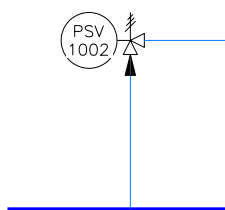

Figure 2-75 Location of the pressure relief valve
9. Place the pressure relief valve on the secondary line of the line connecting the top nozzle of the vessel, as shown in Figure 2-75.